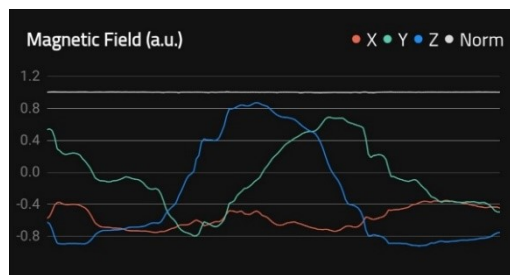

Figure 6: Mag Norm is constant while moving
- If the Mag Norm will vary depending on the location and orientation of the device (see Figure 6), there are magnetic distortions in the environment.